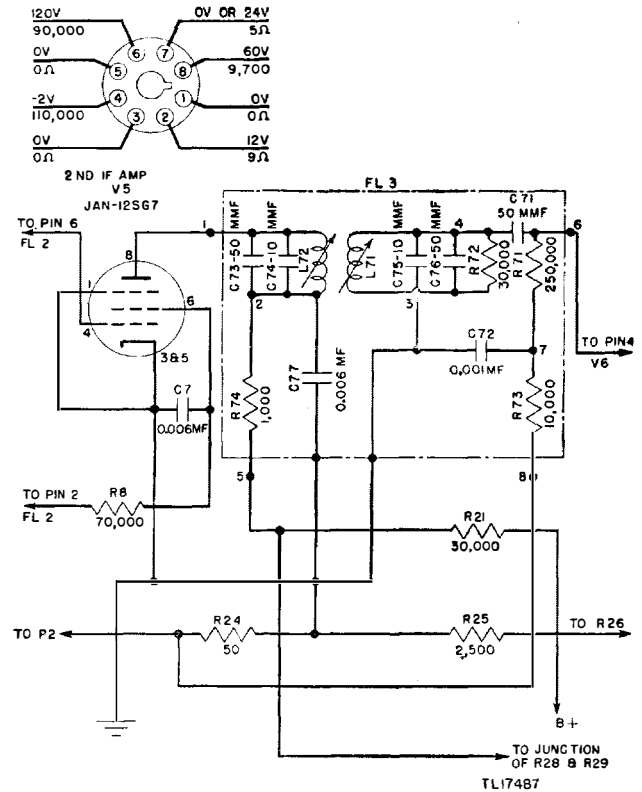

Figure 29. Radio Receiver BC-603-(*), second intermediate-frequency amplifier V5—schematic diagram.
36. Parts List for Second I-f Amplifier Stage, V5 (fig. 29)